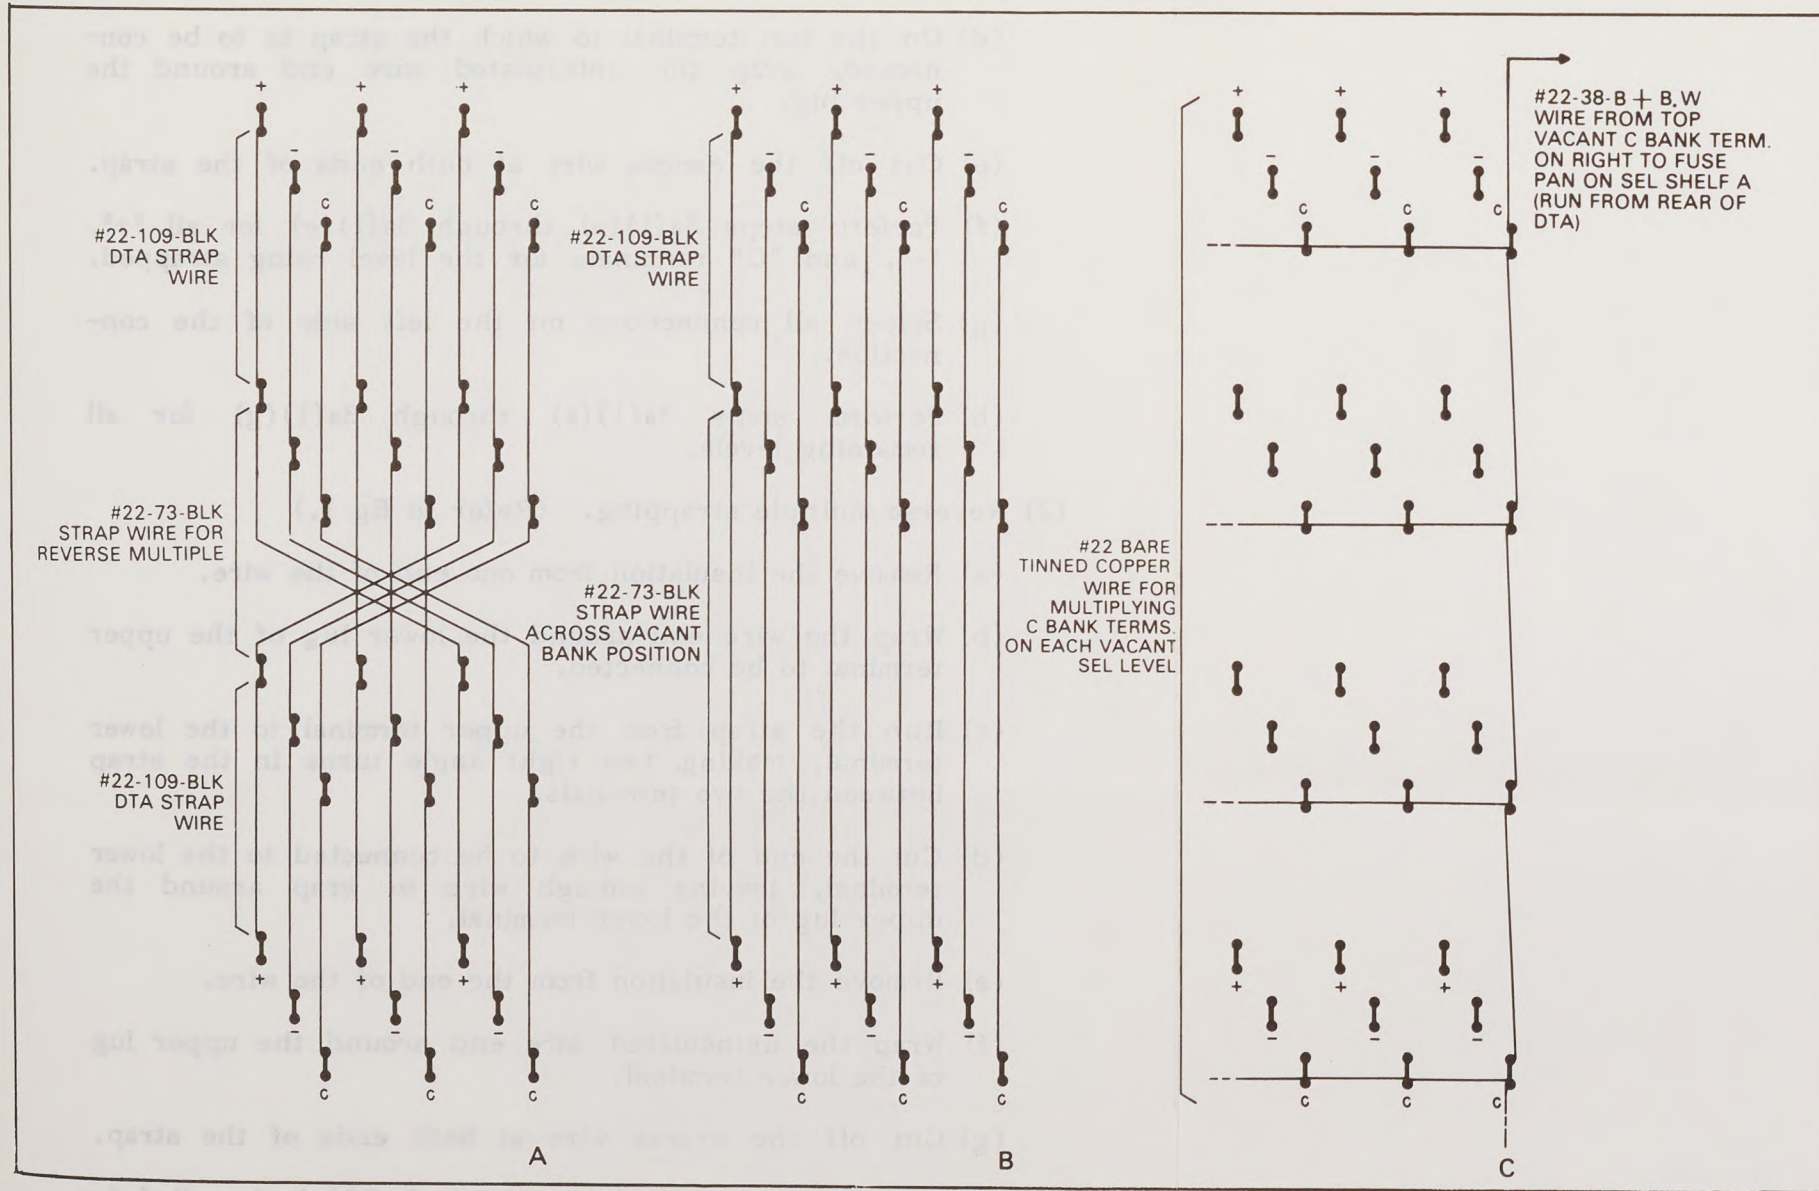

Figure 1. Types of Strapping on DTA Bank Terminal Boards.
- (1) Vertical strapping between adjacent bank terminals. (Refer to fig 1.)
(2) Reverse multiple strapping. (Refer to fig 1.)
(3) Strapping across vacant bank positions. (Refer to fig 1.)